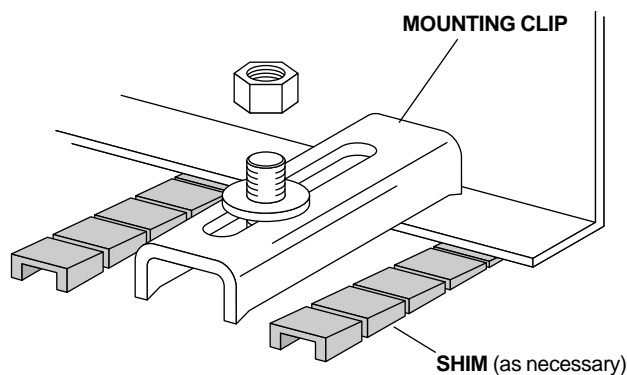

FIGURE 17
3. Secure the sub-base to the floor by tightening the mounting clips to the sub-base (see Figure 17).